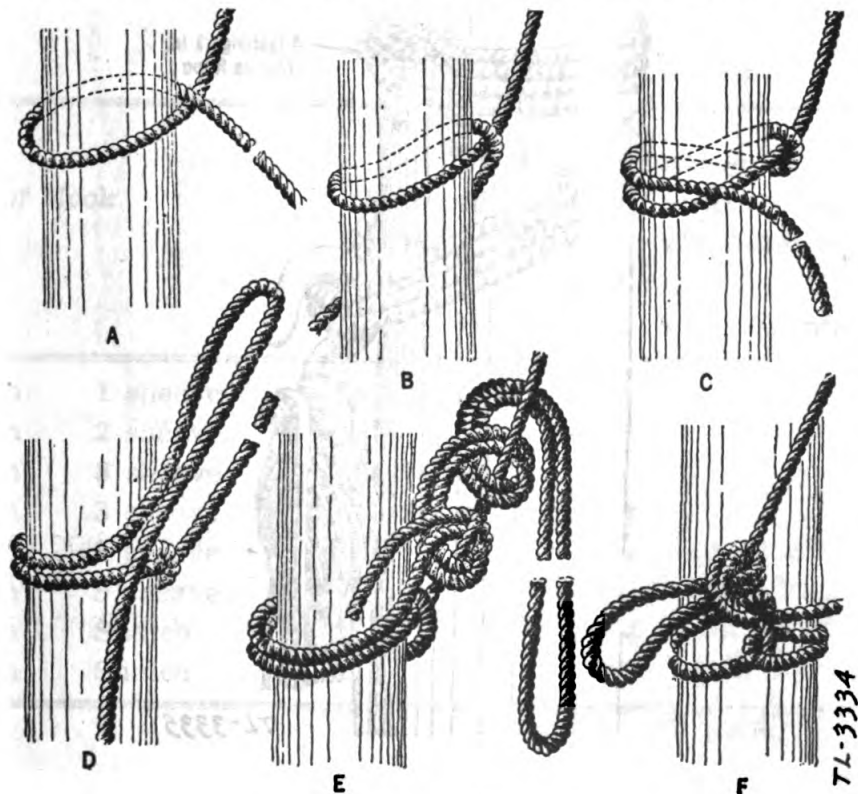

Figure 18
(1) Grasp the rope as shown in 17-A.
(2) Drop rope between the hands to form a bight, then twist the hands, thus forming two loops as shown in 17-B.
(3) Twist each loop a half turn in the direction indicated by the arrows in 17-C.
(4) Twist each loop another half turn and hang loop on the hook. The completed hitch is shown in 17-D.
m. Platform guy knot.—This knot is used in securing the ropes, leading from the splicers platform to the pole, ladders, and other supports. See figure 18.
(1) Select the side of the platform from which the splicer is to work. Grasp loose end of guy rope from opposite side of the platform and pass it around the pole, about 3 feet from the ground and pull tight. Keep the guy rope clear of steps and avoid blocking the climbing space.
(2) Take a turn over and around the standing part of the rope with the loose end, and pull to the desired tension.
(3) Pass the rope around the pole so that it crosses the first turn. Hold the free end of the rope in this position to snub pull on the platform. Pull to the desired tension.